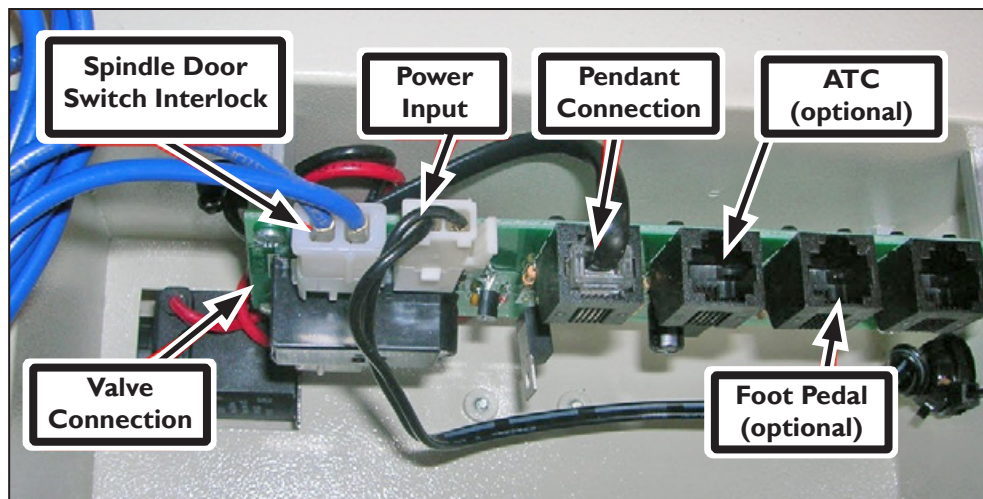

Figure 28
2. Plug the foot pedal cable into the foot pedal connector port on the Power Drawbar control board (see **Figure 28**).